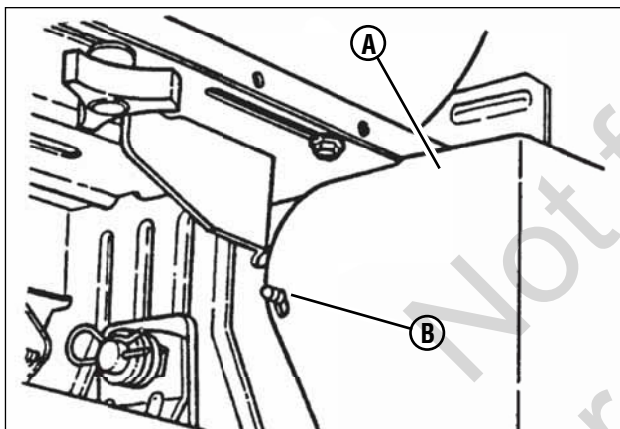

Figure 47: Battery cover
1. Carefully pull each side of the battery cover (**A**, **Figure 47**) away from the ratchet fasteners (**B**) and remove the cover.
7. Reinstall the battery cover (**A**, **Figure 47**).